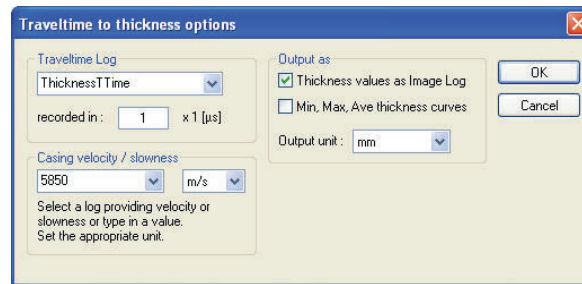

Figure 8-3 Traveltime to casing thickness conversion dialog box
1. From the **Process > Image Module > Image Logs** menu in WellCAD select the Calculate Thickness... entry. The corresponding options dialog box will open (Figure 8-3).